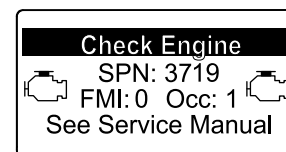

Figure 47
- Engine warning SPN 3719, FMI: 0 (Figure 47)